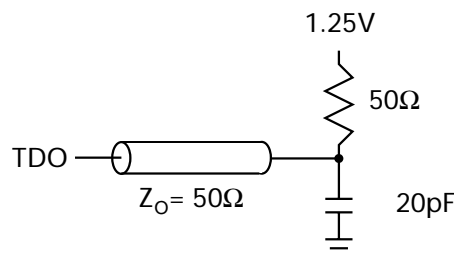

Figure 7
2. Test conditions are specified using the load in Figure 7.